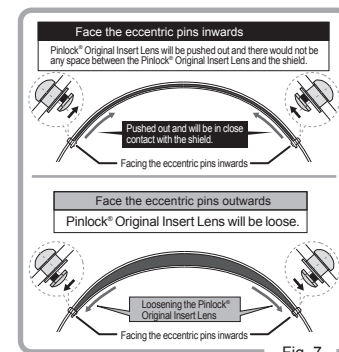

Fig. 7
2. Adjust the eccentric pins by turning them with a tool. (Fig. 7)